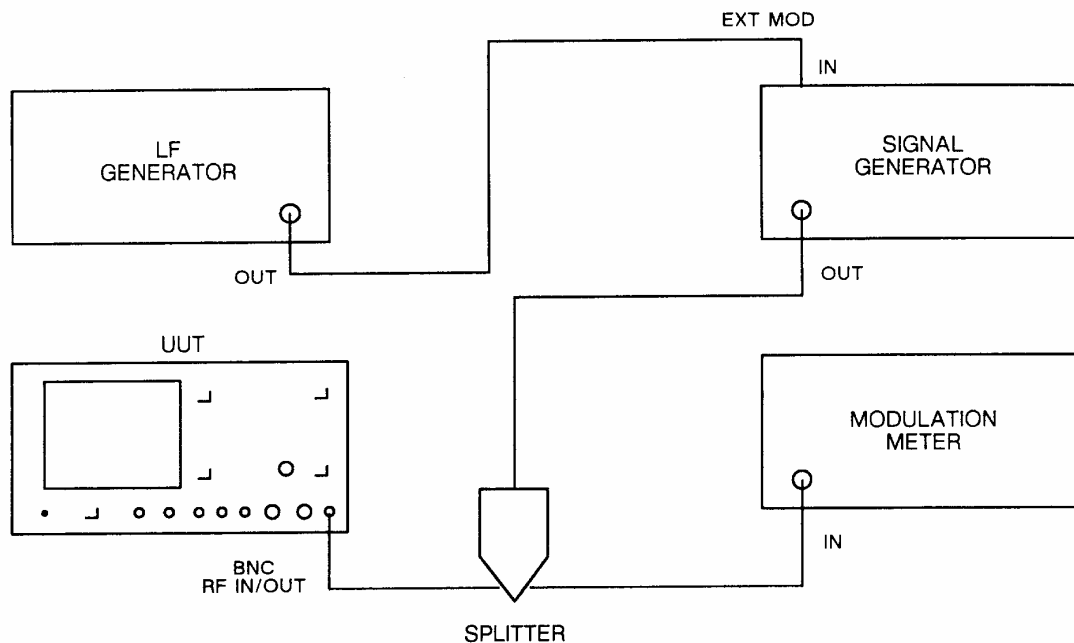

Fig. 5-1-5 Test equipment connections for modulation meter AM & FM
- (2) Set the UUT to TX, AM, 0.3 – 3.4 kHz BAND PASS filter, BNC input socket.
- (3) Set the signal generator to carrier frequency 100 MHz, level 7 dBm, 80% AM, 1 kHz internal modulation rate.
- (4) Set the modulation meter to monitor AM in a 0.3 – 3.4 kHz bandwidth.
- (5) Check that the AM level indicated on the UUT display is within  $\pm 5\%$  of reading  $\pm 1$  digit of modulation depth indicated on the modulation meter. Check that the AM bar chart indicates the AM being applied.
- (6) Repeat the above for modulation depths from 0 to 90% and carrier frequencies between 1.5 and 100 MHz.
- (7) Repeat for modulation depths from 0 to 80% and carrier frequencies between 1.5 and 400 MHz.
- (8) Connect an LF generator to the signal generator as shown in Fig. 5-1-5.
- (1) Connect the equipment as shown in Fig. 5-1-5.
- (2) Set the UUT to TX, FM, 0.3 – 3.4 kHz BAND PASS filter, distortion/SINAD/SN off, BNC input socket.
- (3) Set the signal generator to carrier frequency 500 MHz, level 13 dBm, 25 kHz FM, 1 kHz internal modulation rate.
- (4) Set the modulation meter to monitor FM in a 0.3 to 3.4 kHz bandwidth.
- (5) Check that the FM level indicated on the UUT display is within ±5% of reading ±1 digit of modulation deviation indicated on the modulation meter. Check that the FM bar chart indicates the FM being applied.
- (6) Repeat the above for random carrier frequencies from 1.5 to 1000 MHz and random deviation between 0 and 25 kHz.
- (7) Set the UUT to TX, FM, 15 kHz LOW PASS filter, BNC input socket.
- (8) Set the signal generator to carrier frequency 500 MHz, level 13 dBm, 25 kHz external FM at 10 kHz modulation (from the LF generator).